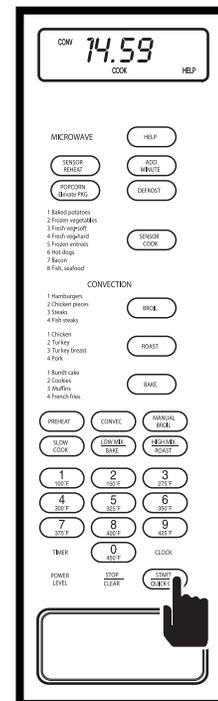

Figure 3-98.
5. Open door, place steaks in oven, and close door. Press the QUICK ON/START key. (See Figure 3-98)